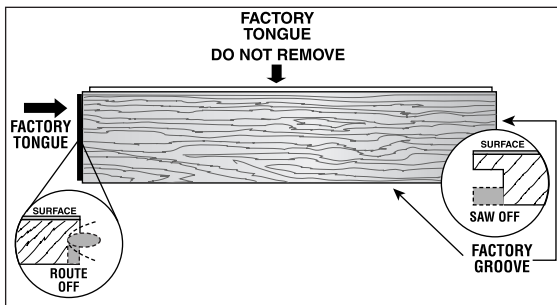

Fig. 50
8. Prepare replacement board by routing off factory tongue short end (Fig. 50). Remove bottom lip of groove on three sides, leaving long edge factory tongue. When removing bottom of groove, cut the thickness of a saw blade into the board.